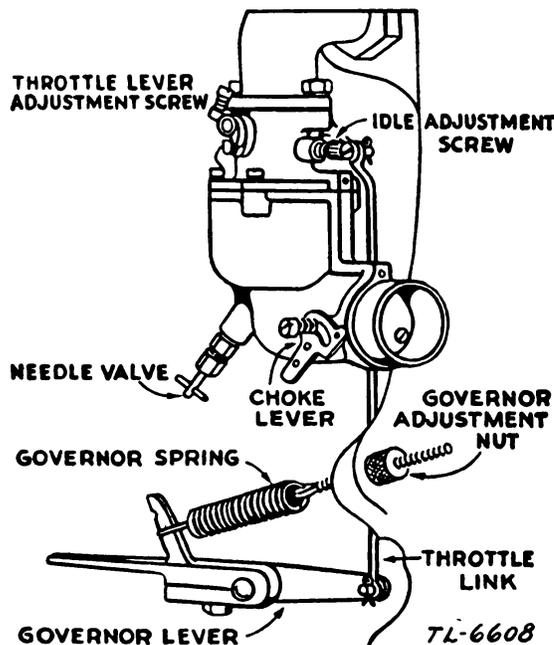

FIGURE 7. Carburetor and governor hook-up.
d. Carburetor adjustment (fig. 7). To adjust the carburetor, close the needle valve by turning it in a clockwise direction as far as possible. Do not tighten the valve with too much force since damage to the mechanism may result. From the closed position, open the needle valve 1 to 1¼ turns. After the motor has been started and warmed up, make the final adjustment with the choke wide open by turning the needle valve to the position at which the motor operates most smoothly under full load. This setting
10. GOVERNOR (fig. 7).